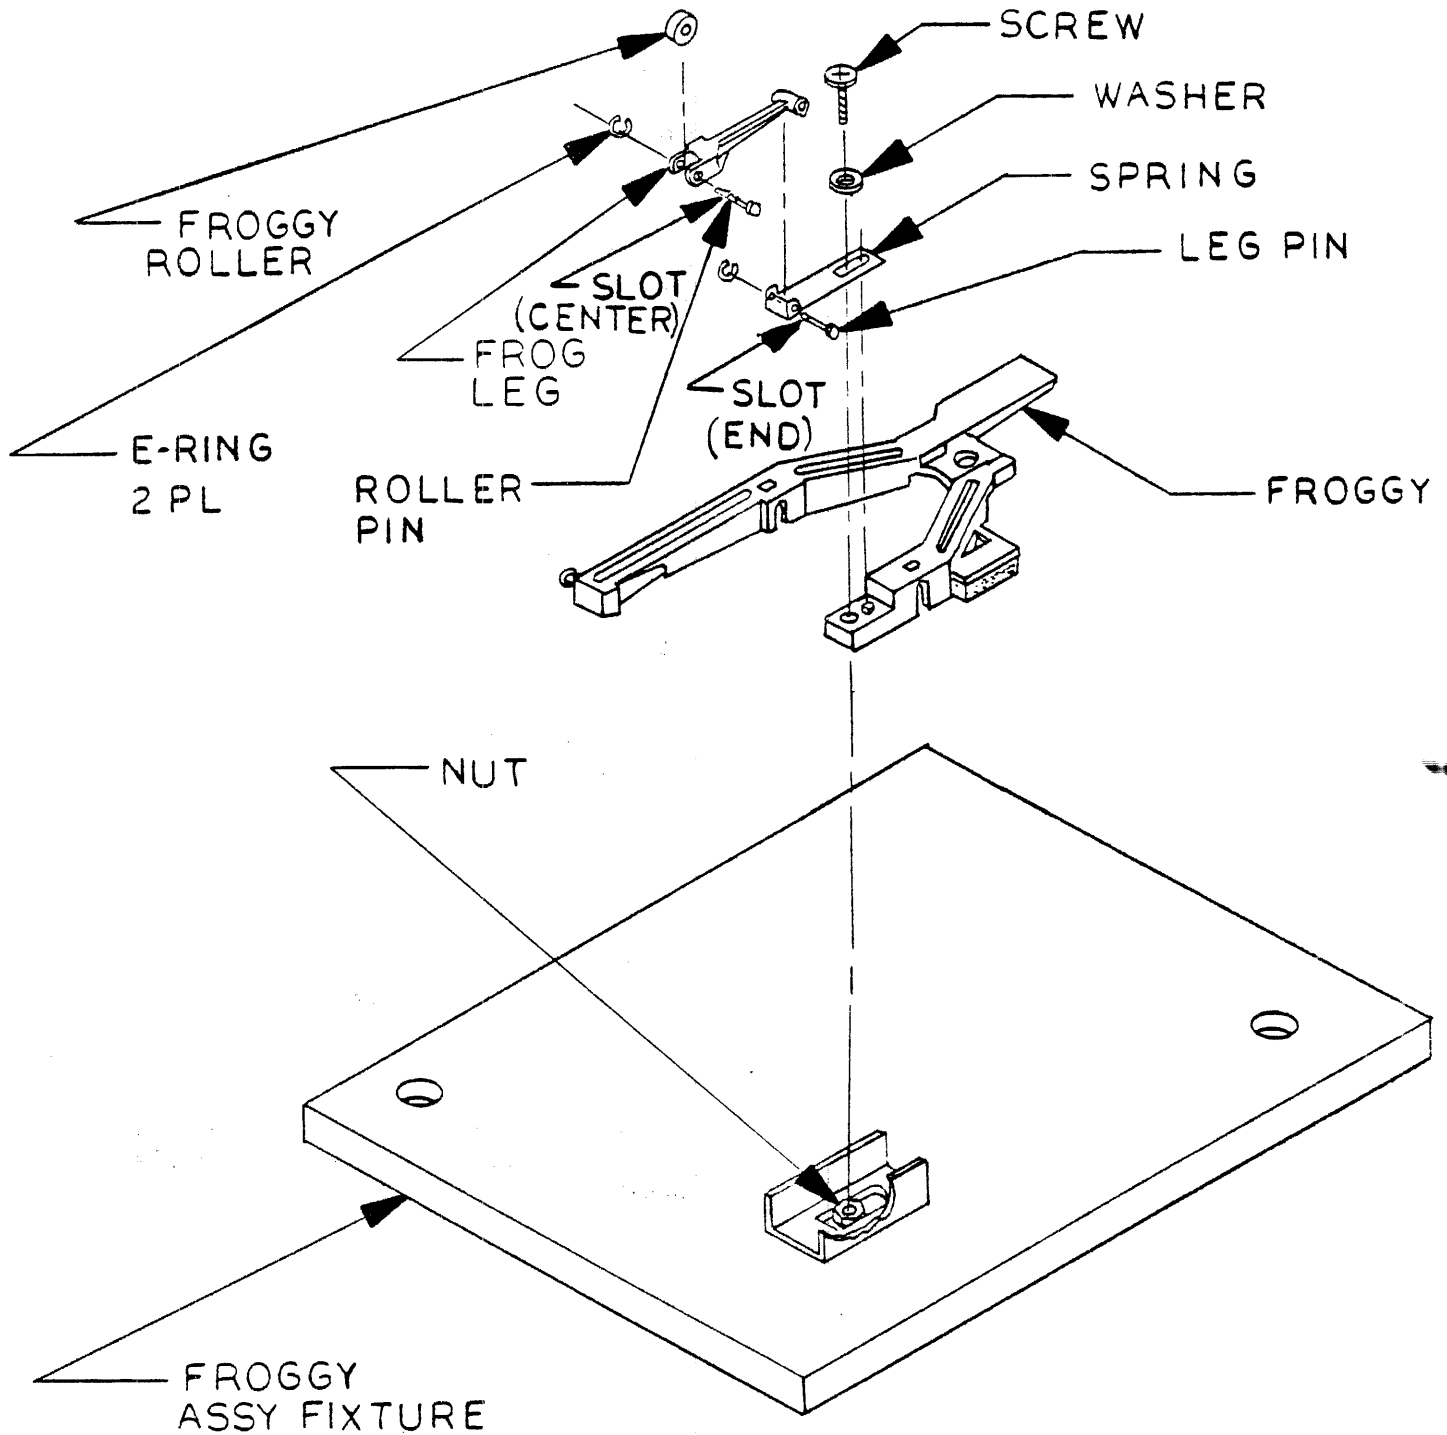

FIGURE 2. THE INSTALLATION OF THE FOG LEG & LEG PIN, FROGGY ASSY FIXTURE & INSTALLATION OF FROG LEG ONTO THE FROG.
- 7.2.1 Assemble the frog leg as shown in Fig. 2.
- 7.2.2 Place the frog leg on the spring. (See Fig. 2.) Insert a leg pin (it has a slot in the end) into the holes in the spring and the frog leg.
- 7.2.4 Using the e-ring applicator, insert the e-ring into the slot in the end of the leg pin holding the frog leg onto the spring. (See Fig. 2.)
- 7.2.5 Place a froggy roller onto the frog leg as shown in Fig. 2. Insert a roller pin (it has a slot in the center) through the holes in the frog leg and the froggy roller.
- 7.2.6 Using the e-ring applicator, insert an e-ring into the slot in the roller pin holding the froggy roller onto the frog leg. (See Fig. 2.)
- 7.3.1 Insert the nut into the nut retaining hole on the froggy assembly fixture. (See Fig. 2.) Insert the froggy onto the fixture. (See Fig. 2.)
- 7.3.2 Insert the assembled frog leg onto the froggy as shown in Fig. 2. (Be sure the spring faces up as shown in Fig. 2.) Insert the washer on top of the spring over the hole in the froggy so that the smooth side of the washer faces up.